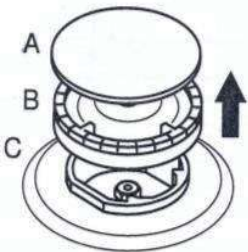
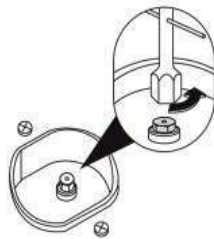
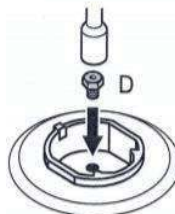
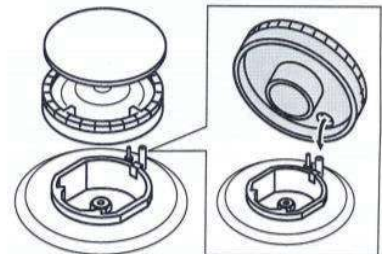

Figure 7
Figure 7.1
Figure 7.2
Figure 7.3
Remove the burner cover and burner as shown in the Figure 7. Remove the injector by help of 7's socket screw driver as shown in the Figure 7.1. Fix the injector (D) you want to convert as shown in the Figure 7.2 (see Table 1 at the end of this manual). Put the burner in place again as shown in the Figure 7.3. Upon completion of the conversion, then burn the burners in order and remove the switch on the control panel and adjust the low flame length by tightening or untightening the screw on the gas valve (7.4) or inside the valve shaft.